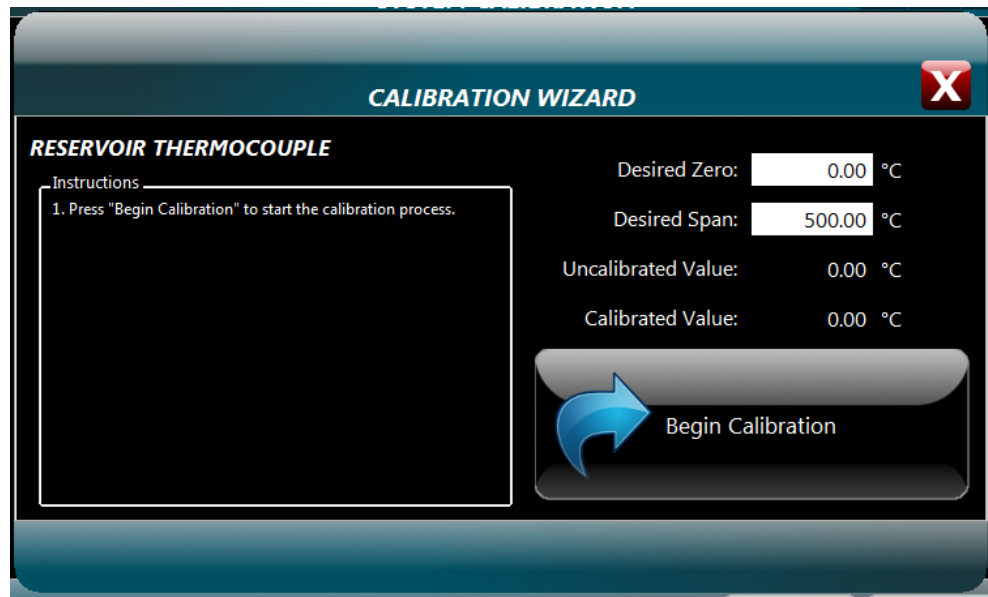

Figure 77 – Thermocouple Electronic Calibration Wizard display with Begin button
1. From the display, select the desired thermocouple button to be calibrated. If the tube thermocouple is to be calibrated, select the 'Electronic' button when asked for the method to be performed (two (2) methods of calibration exist for the tube thermocouple).
2. Select the 'Begin Calibration' button on the Calibration Wizard display to start the process (figure 77).